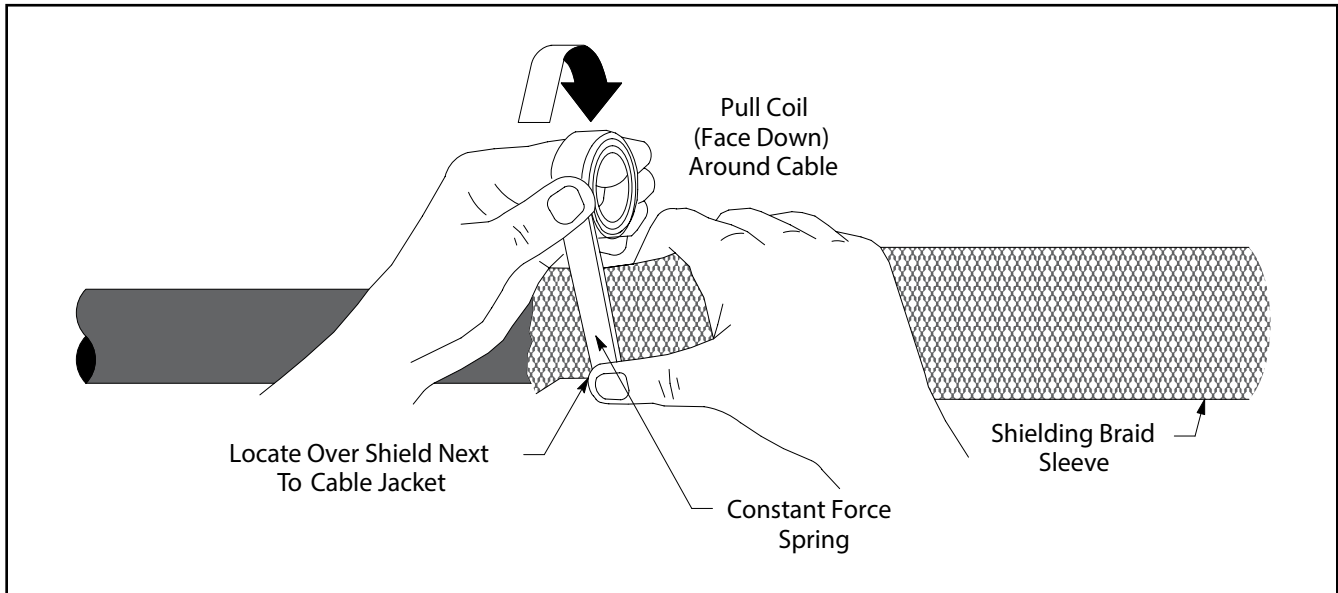

Figure 15
- 8.3 Install a constant force spring at one end; position spring over cable metallic shield next to cut-off cable jacket. With thumb, hold coil in place over sleeve (rolled up coil should be facing away from you). Pull coil around cable for one wrap only (*Figure 15*).